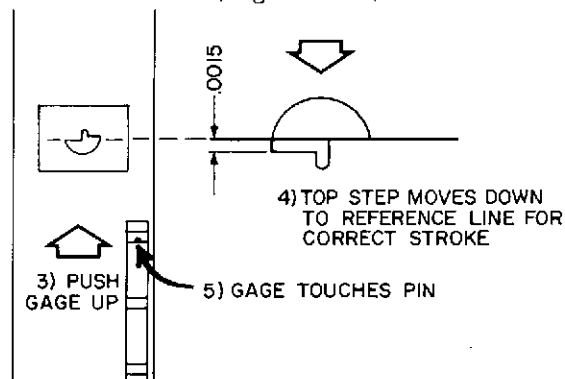

Figure 4-10. CLAW PULL DOWN STROKE
- g. Lift or push Gauge up. Projected Target will move down. Upper Target step must touch reference line drawn in Step (f) for correct stroke. (Figure 4-10).
- j. Lift or push Gauge up. Projected Target will move down. Upper Target step must touch reference line drawn in Step (h) for correct stroke. (Figure 4-10).